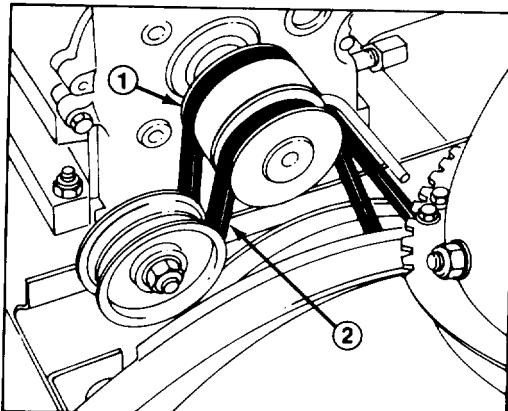
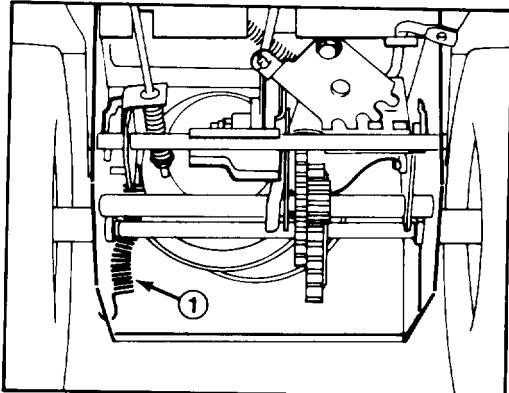

Figure 24
Figure 25
When auger/impeller drive belt (Fig. 24) becomes worn, stretched, oil-soaked, or otherwise defective, belt replacement is required.
4. Install new belt around large auger/impeller pulley (Fig. 24). Next, loop belt over engine pulley, making sure that belt is on inside of idler pulley and wire belt guide (Fig. 24).
5. Set unit upright and remove traction drive belt from engine pulley and large traction pulley (Fig. 24).
6. Install new belt around large traction pulley (Fig. 24). Next, loop belt over engine pulley, making sure that belt is on inside of traction idler pulley and wire belt guide (Fig. 24). Tip snowblower onto auger housing, block it and hook spring onto side plate (Fig. 25). Replace rear shield and set unit upright.
7. Replace auger/impeller drive belt: refer to Replacing Auger/Impeller Drive Belt, item 4-5.
4. Tip snowblower onto auger housing and block it so it cannot fall. Remove rear shield and disconnect spring from side plate (Fig. 25).